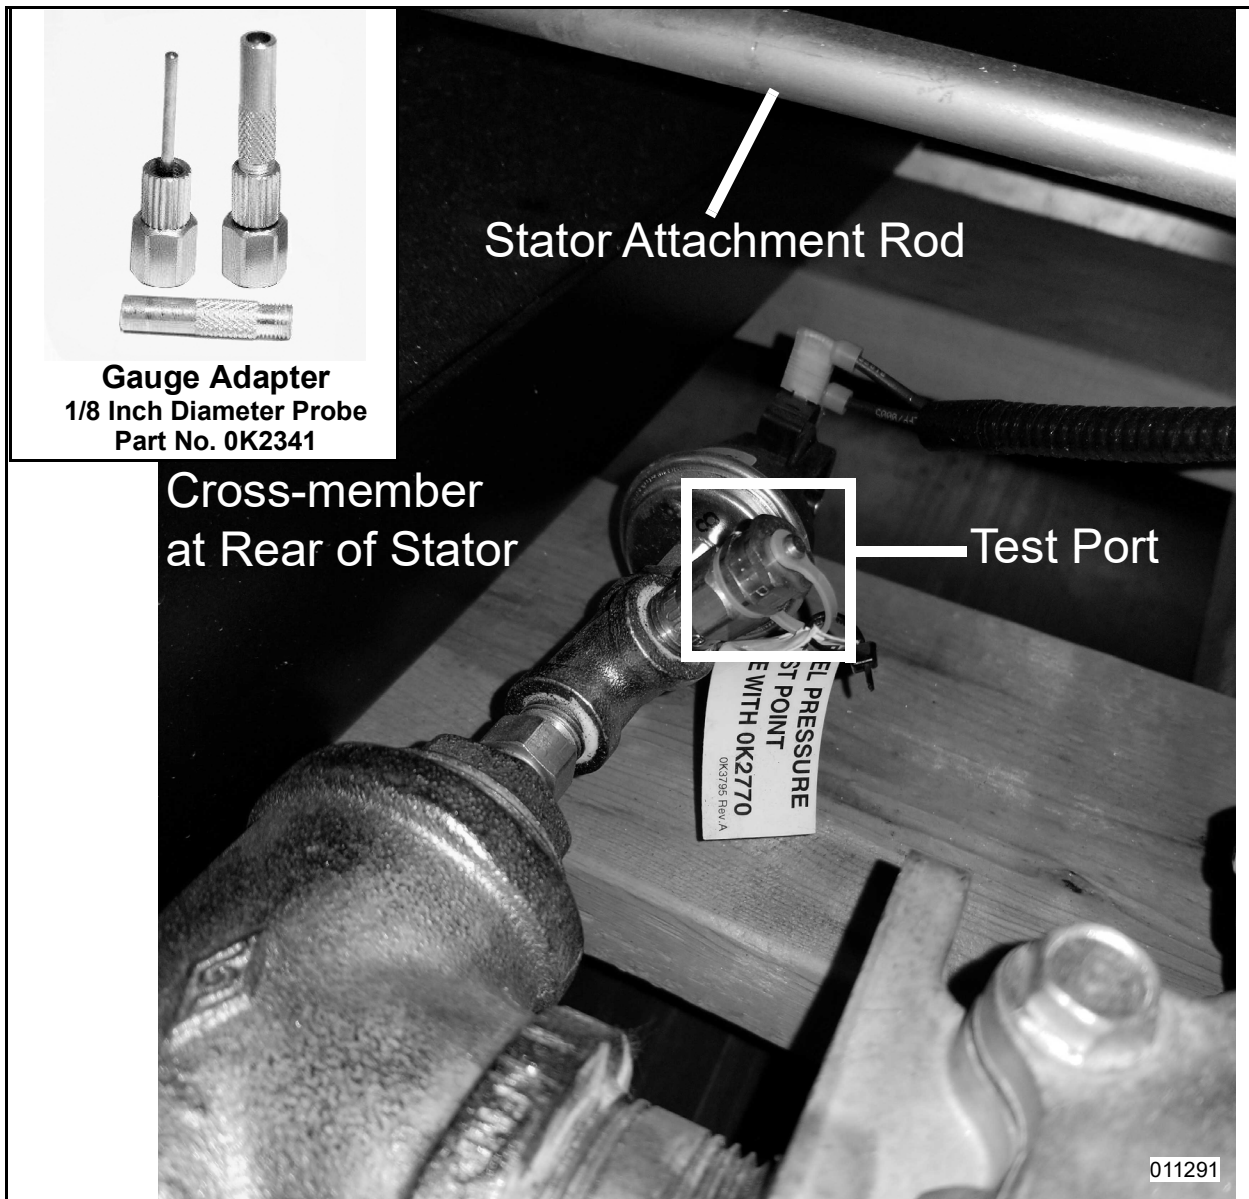

Figure 4-5. Fuel Pressure Test Point
1. See Figure 4-5. Using a suitable pressure gauge or water manometer, measure fuel pressure to the generator at a test port located at the fuel solenoid shutoff valve(s).